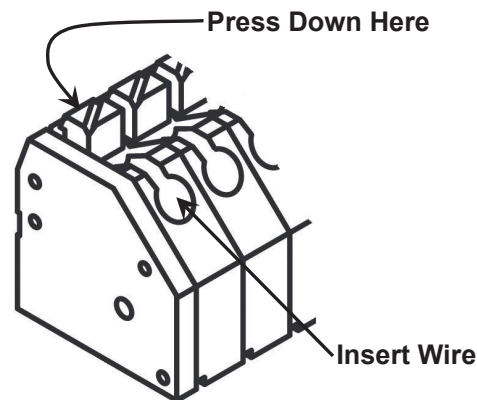

Figure No. 7
4. Connect each of the wires to terminal block P2 referring to labels on circuit board for terminal connections. Refer to Figure No. 7 for terminal block location.